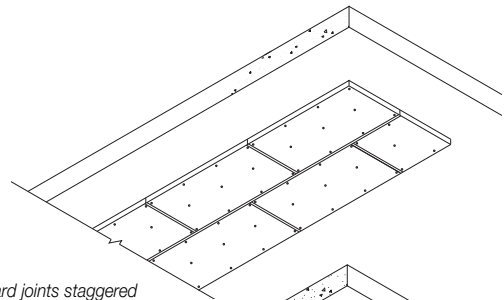
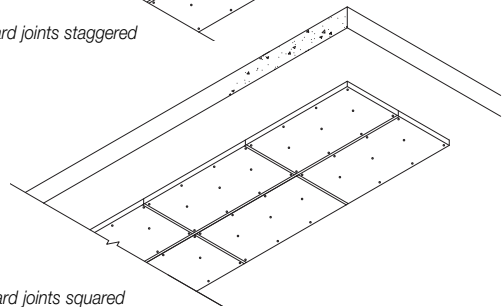

Figure 5 Board joints staggered
Figure 6 Board joints squared
2. Board joints can be either staggered (see Figure 5) or squared (see Figure 6) and taped with 96 mm wide silver *Kingspan Insulation Tape*. 4 No. fasteners along each length - no less than 50 mm - no more than 150 mm from edge of board, 3 No. fasteners along the middle (offset from edge positions as per diagram Figure 3).